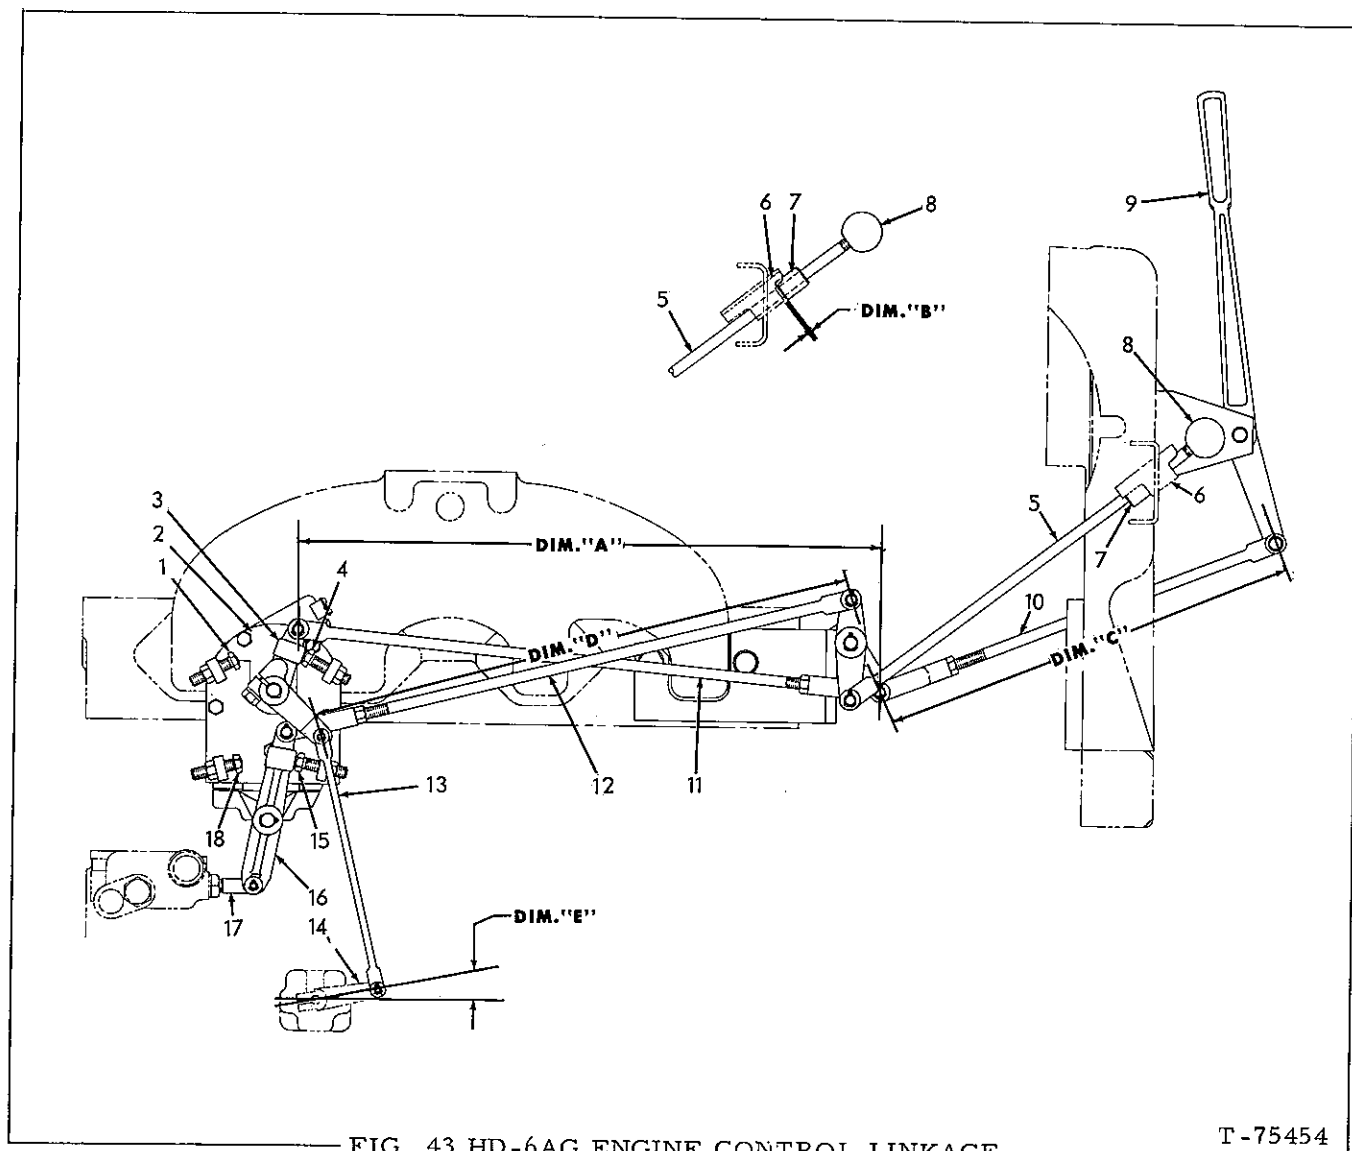

FIG. 43 HD-6AG ENGINE CONTROL LINKAGE
ADJUSTMENT OF ENGINE SHUT-OFF CONTROL LINKAGE HD-6AG (FIG. 43)
If engine fuel shut-off control fails to operate properly, first be certain the condition is not due to binding or broken linkage. Refer to Fig. 43; adjust engine shut-off linkage as follows:
moved or if new control rods are used, adjust them to proper length, Fig. 43, before installing.
ADJUSTMENT OF THROTTLE CONTROL LINKAGE HD-6AG (FIG. 43)
If throttle control fails to operate properly be certain condition is not due to binding linkage. Refer to Fig. 43; adjust linkage as follows:
or if new control rods are used, adjust them to proper length, Fig. 43, before installing.
1. Loosen jam nut on low idle stop screw (4) and high idle stop screw (1); turn stops screws in several turns. Remove yoke pin attaching front control rod (11) to bellcrank (3).
2. Check position of governor speed control lever, Fig. 43 (14); centerline of hole in lever must be 10° DIM. "E", above horizontal. Re-position lever on shaft if necessary.
3. Move shut-off knob (8) forward to the run position. Start engine and allow it to warm up. Move bellcrank (3) rearward until engine runs at specified low idle speed, hold bellcrank in this position and turn low idle stop screw (4) in until head of stop screw just contacts lug on bellcrank; tighten jam nut.
4. With lug on bellcrank (3) against low idle stop screw (4) connect front control rod (11) yoke to bellcrank (3); if necessary adjust front control rod (11) yoke so pin is easy slip fit through yoke and bellcrank (3). Secure with cotter pin.
5. Pull throttle lever (9) back slowly until specified high idle is obtained. Turn high idle stop screw (1) in until it just contacts lug on bellcrank (3); tighten stop screw jam nut.